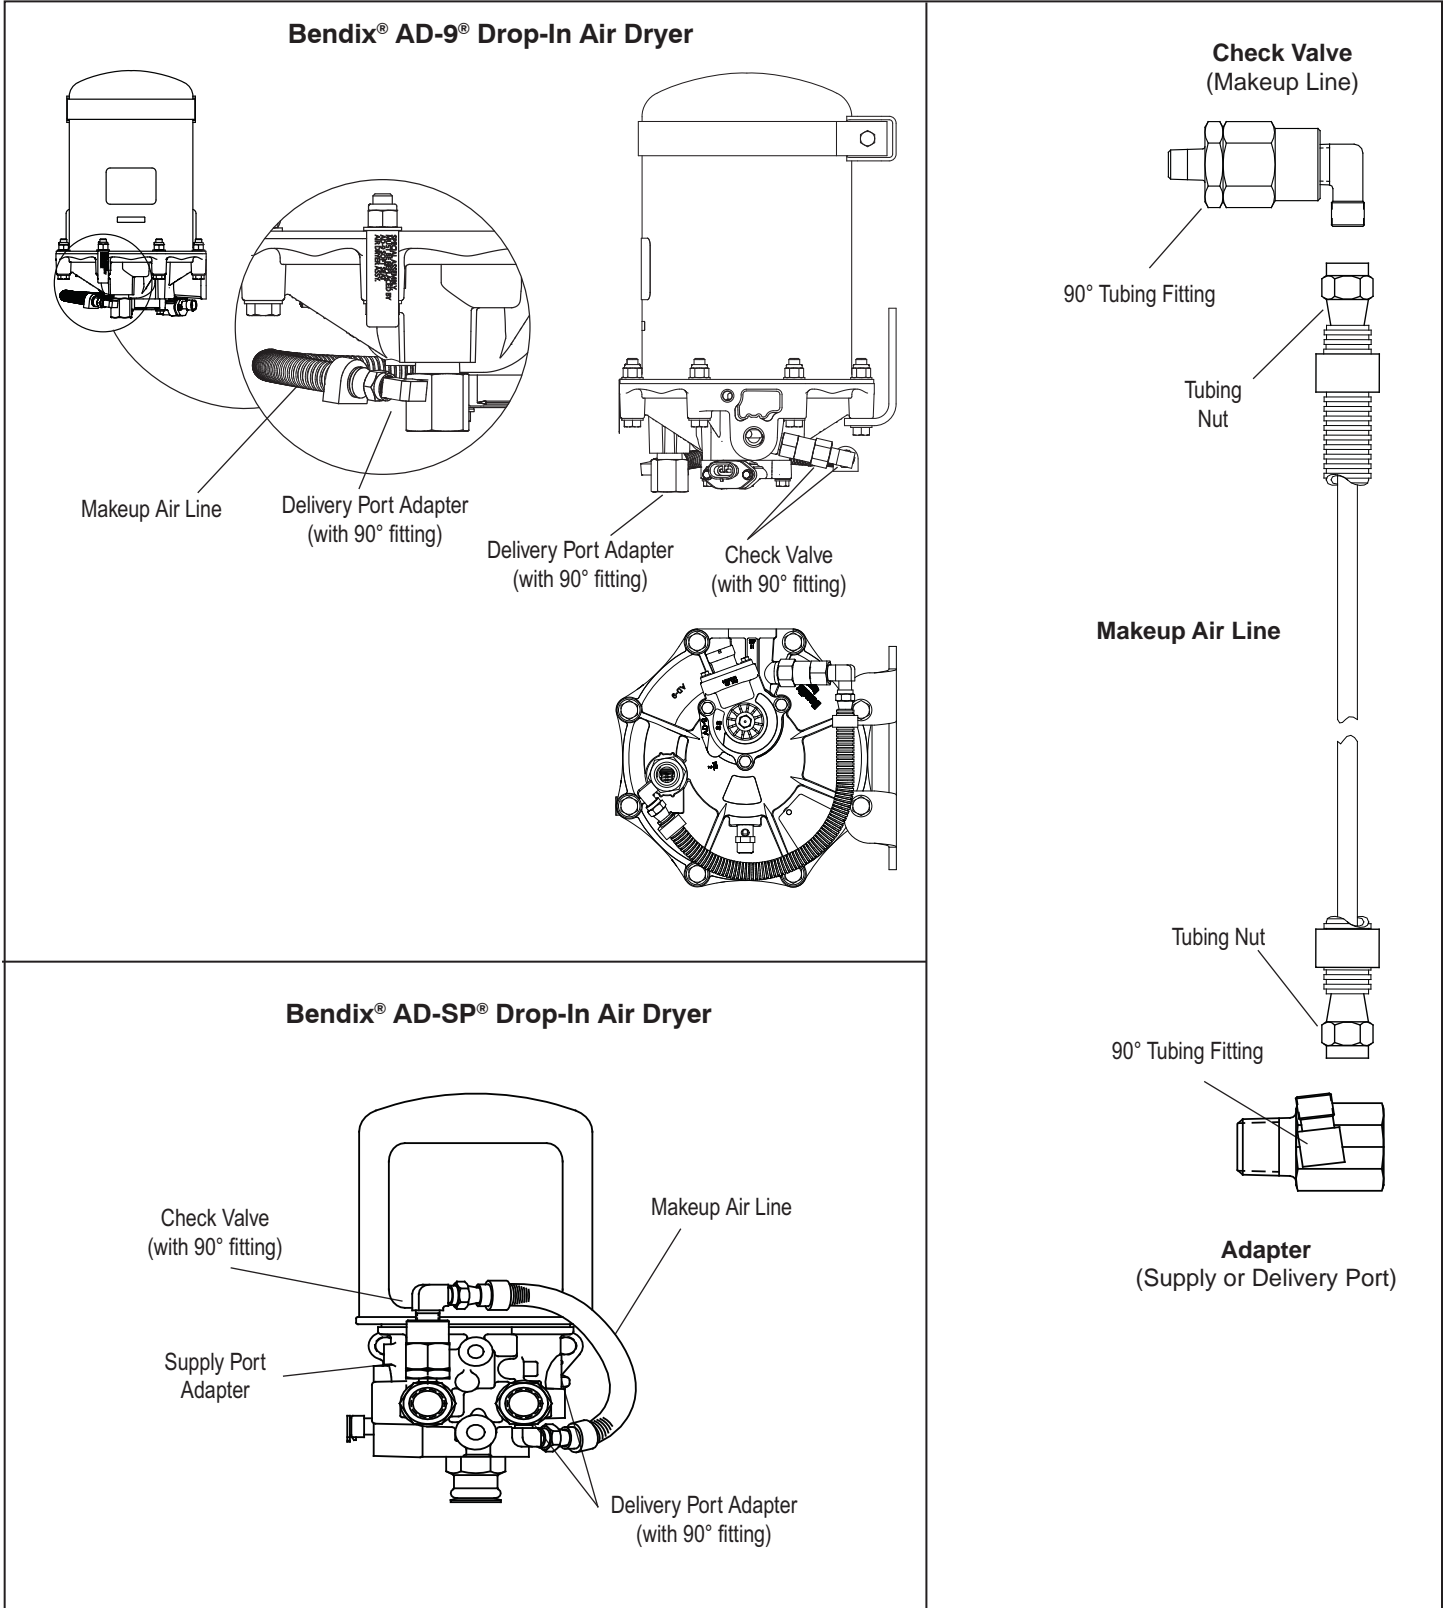

Figure 1 Makeup Line Components on Drop-In Air Dryer
2. Determine which part or parts are being replaced and on which air dryer model. See figure 1.